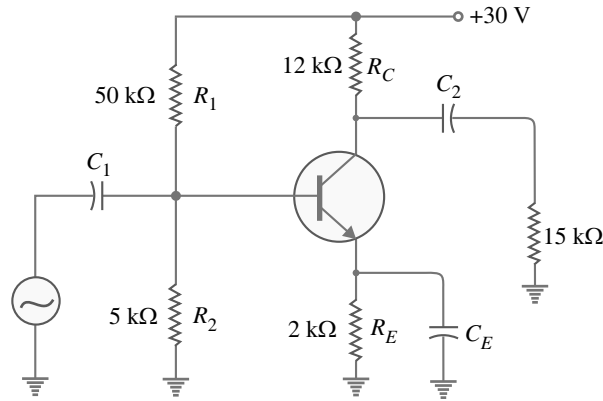

Fig. 22.19
**Example 22.13.** For the circuit shown in Fig. 22.19, use approximate hybrid formulas to determine (i) the input impedance (ii) voltage gain. The  $h$  parameters of the transistor are  $h_{ie} = 1.94 \text{ k}\Omega$  and  $h_{fe} = 71$ .